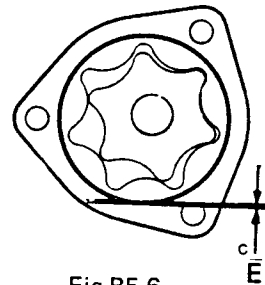

Fig B5.6
- (4) Refer to Fig B5.6. Check outer ring to body clearance (dimension E). Clearance to be 0,28 mm maximum.